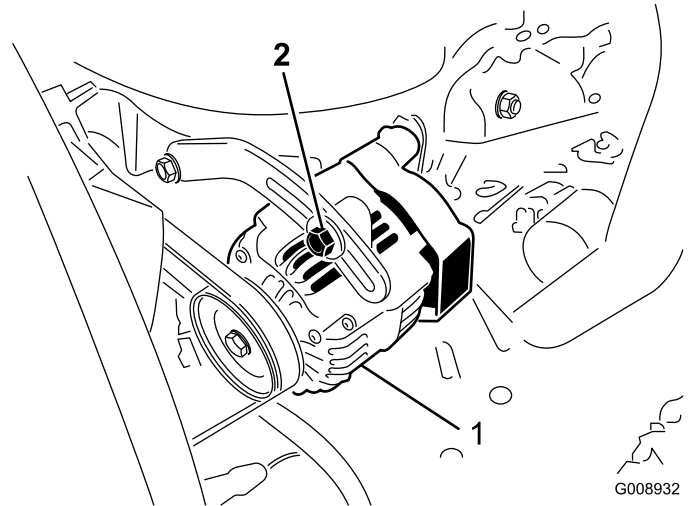

Figure 49
2. If the deflection is not 10 mm (3/8 inch), loosen the alternator mounting bolts (Figure 49).